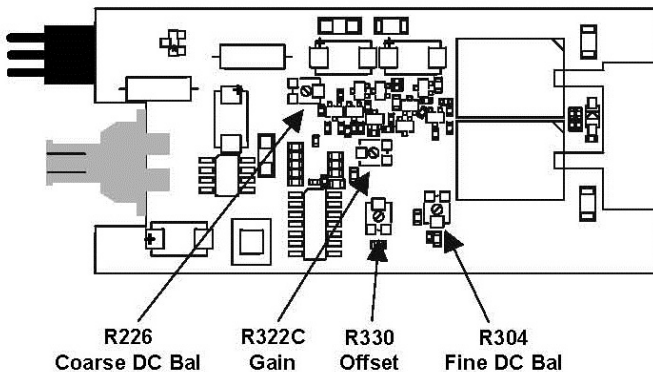

Figure 11, Amplifier Board Adjustment Locations
5. Adjust **Coarse DC Bal** (R226) on the amplifier board for an output voltage of 0 mV -10 mV. (See Figure 11 for location.)
11. Adjust **Offset** (R330) to bring the trace back to exactly center screen. (See Figure 11.)
- Adjust **GAIN** (R322C) so that the DMM reading is within  $\pm 1$  mV (0.5%) of the reading recorded in step F-6. (See Figure 11.)